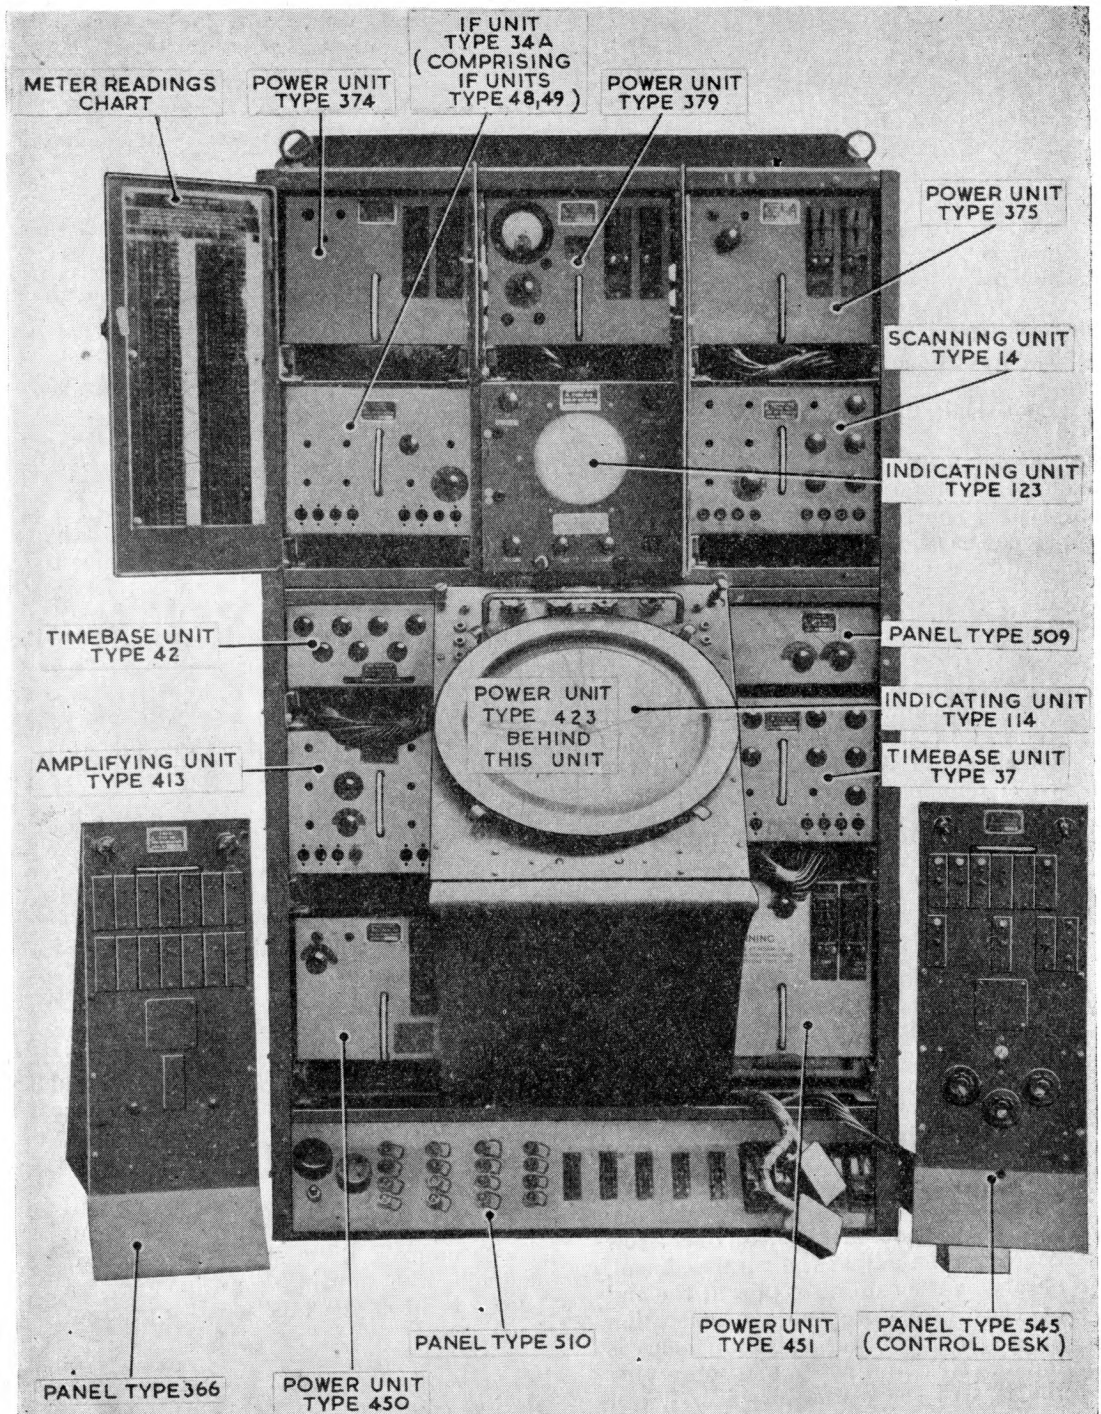

Fig. 38. Console No. 3 (Type 15A)
124. Console 3 (Type 15A), which is illustrated in fig. 38, provides :—
- (2) Check that the Y deflection links on the underside of indicating unit Type 114 are set for elevation deflection (*Chap. 2, para. 74*).
- (3) Ensure that all the control desk keys are off (*fig. 38*).
- (4) Rotate the control marked BRIGHTNESS at the top of the front panel of indicating unit Type 114 fully counter-clockwise.
- (5) Lower the right-hand control desk to expose panel Type 566 or 509 (*fig. 38*). Set the BLANKING switch on that panel to position 2 (EL SCAN). Set the SYNC switch to L.P.O. (*para. 107 to 109*).
- (6) Replace the control desk and switch on the console, not forgetting to ascertain that the wall switch is on.